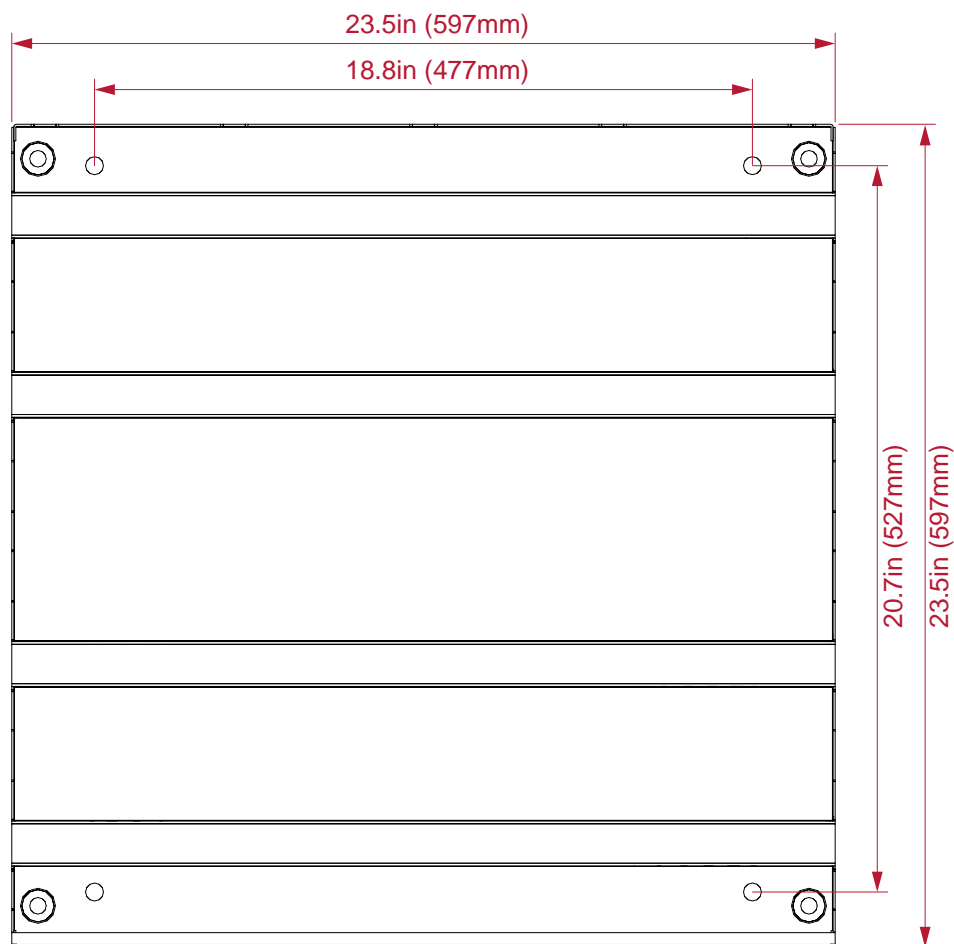

Figure 4-1 Cabinet Drilling Pattern
4. Mark the position of the four fastening bolts on the floor according to Figure 4-1.